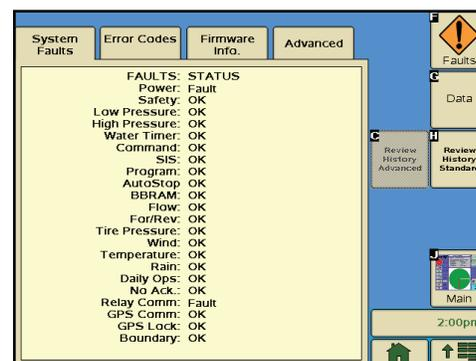

Figure 51-1
The Diagnostics section provides an overview of using the diagnostic features incorporated into the control panel. Diagnostics aid in identifying machine failures, troubleshooting and correcting problems. Push the Diagnostics button (I) to view the screen. See Figure 51-1.